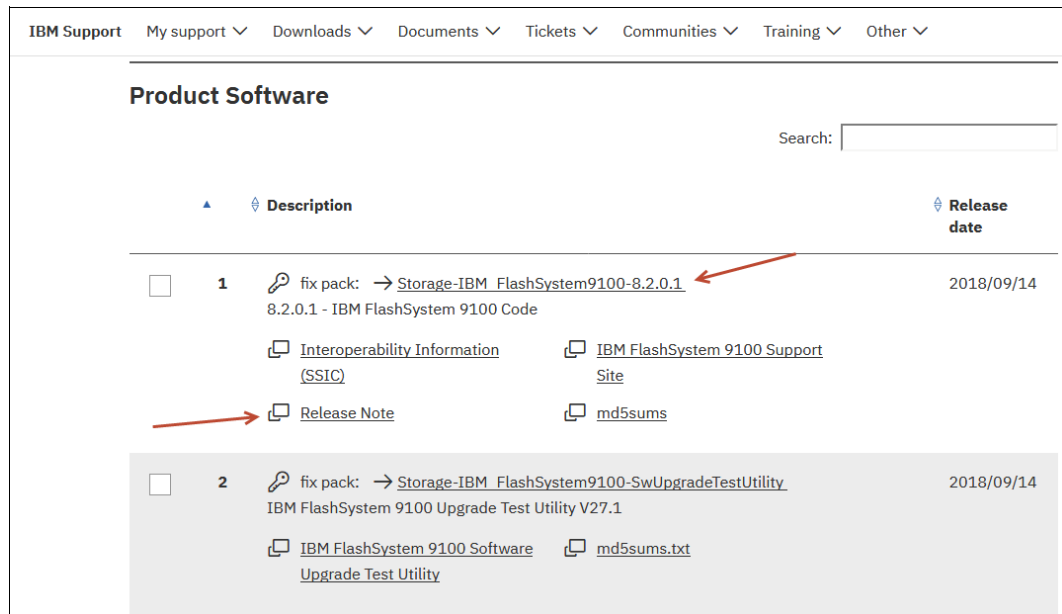

Figure 8-29 Select the desired software level after reading the Release Notes
5. Read the release notes to determine the best fix pack for your environment. Click the fix pack link to be directed to the download page or Select the fix pack (select the box next to it) and click **Continue** at the bottom of the page to initiate the file transfer. Figure 8-29 shows you how to locate the release notes and the software download links.